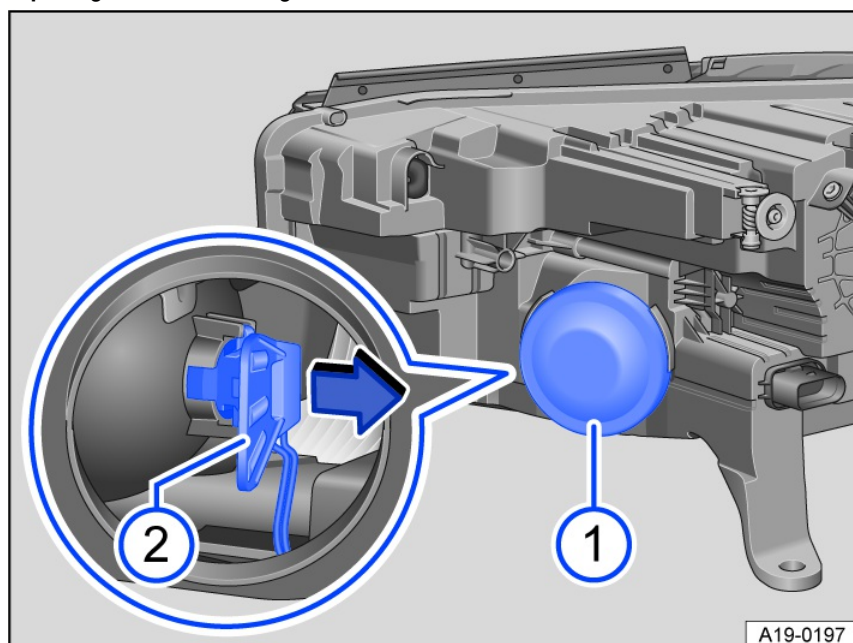

Fig. 174 In the right-side of the engine compartment: Rear side of the headlights.
② Turn signal bulb holder.
1. Remove the rubber cover *fig. 174* ①.
2. Pull out the lamp holder by the handle in the direction of the arrow *fig. 174* ②. At the same time, press the handle slightly up and down alternately, in order to aid removal.
4. Carefully insert the lamp holder in the headlight and press it forwards until it perceptibly engages *fig. 174* ②.